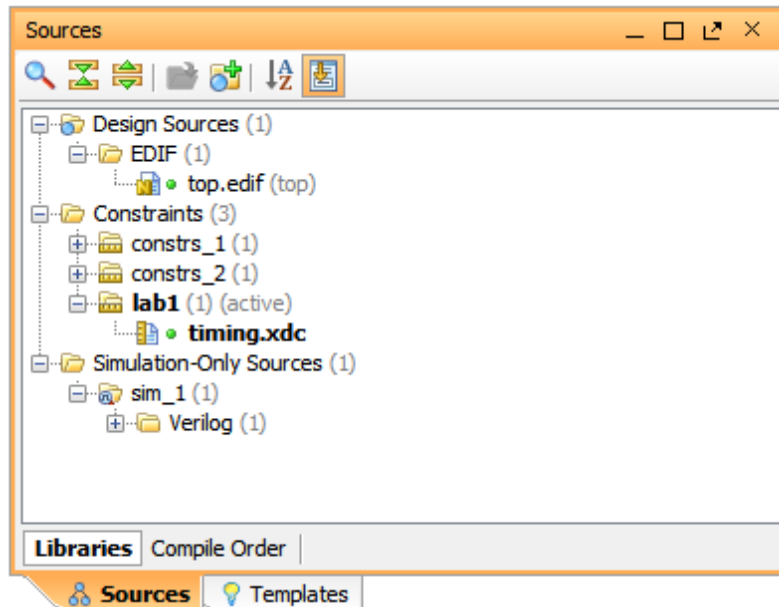

Figure 10: Sources Window
You should see the new constraint set and XDC file in the Sources window as shown in Figure 10, page 15. The constraint set is made active as you directed when you created it.
- Set the `timing.xdc` file as the target XDC file. All constraints added to the design will be saved in the target XDC file. In the Sources window, right-click the `target.xdc` and choose **Set as Target Constraint File** from the context menu. See Figure 10.